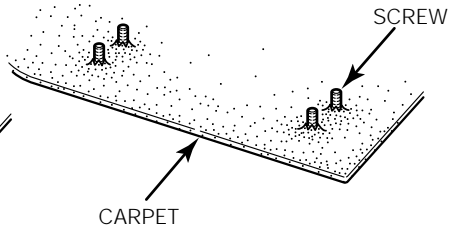

Fig.12
- 5.** Push mounting bolts through a carpet. (Fig.12)